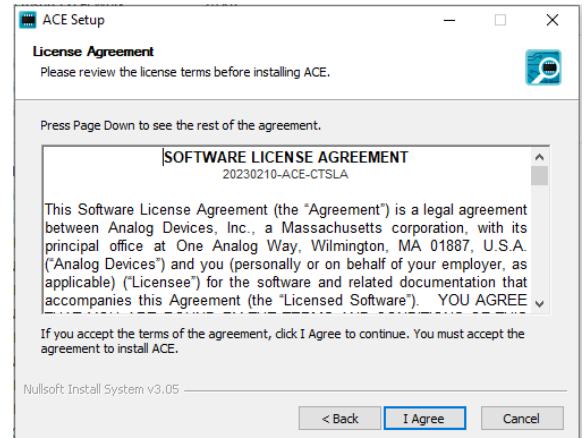

Figure 10. License Agreement
5. Read the software license agreement and click **I Agree** (see Figure 10).